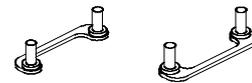

Figure 2-4
- RM Attach Mount (RMAM) - Bolt/Bridge assemblies inserted up through the bottom of the mainboard. Then secures the RM to RMAM (two RMAM required per RM). (Refer to Figure 2-4)